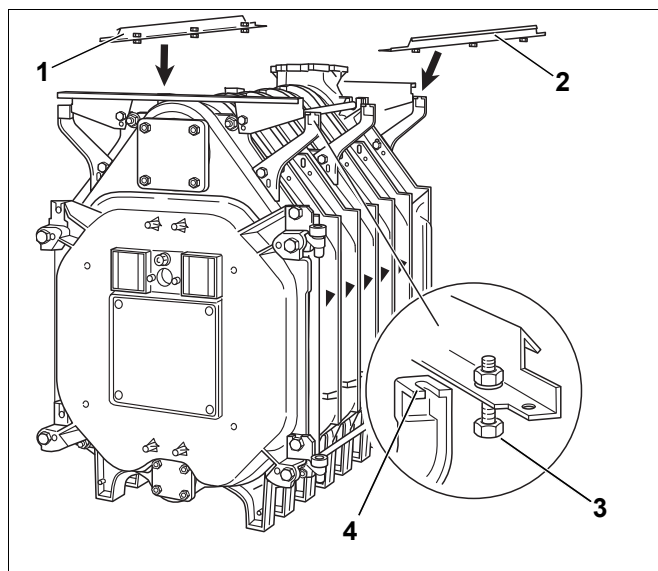

Fig. 38 Installing the longitudinal rails
- Locate the longitudinal rails (Fig. 38, [1] and [2]) on both mounting brackets on the rear and front sections.
- Push the longitudinal rails with pre-fitted screws (Fig. 38, [3]) into the mounting bracket recesses (Fig. 38, [4]) and secure using these screws.